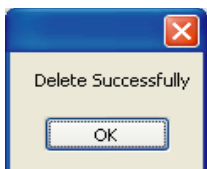

Fig.4-22
- c、 Delete wired controller: Select an existing wired controller (as above method), and click “Delete” , if there is no outdoor module controlled by any wired controller (see Fig. 4-22), the one could be deleted; if there are outdoor modules controlled by wired controller (see Fig. 4-23), a failed delete message box would pop up (see Fig. 4-24). As long as delete all modules under connect the wired controller, the wired controller could be deleted.